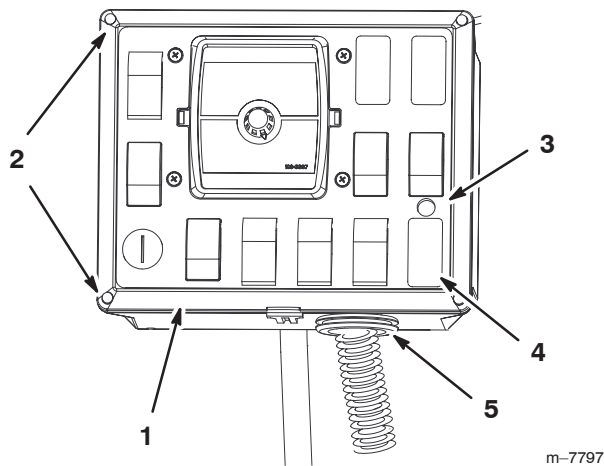

Figure 15
2. In the area just above the sonic boom switch plug, drill a 0.375 diameter hole to accommodate the indicator light (Fig. 15).